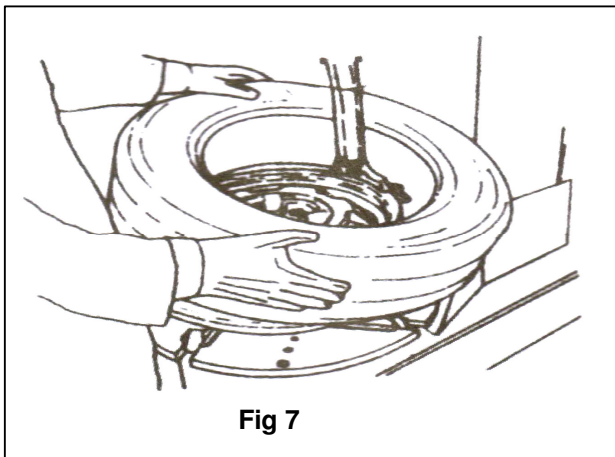

Fig 7
3.2.2 Spread the lubrication liquid or soap liquid around the lip. Tilt the tire against the rim and keep the front end upwards. Press down the hexangular rod to move the demount arm to contact with the rim and lock. The left lip above the tail of the mounting tool and the right lip will be positioned under the front end of the mounting tool (FIG 7). Clockwise rotate the turntable to guide the bottom lip into the tire detaching slot.